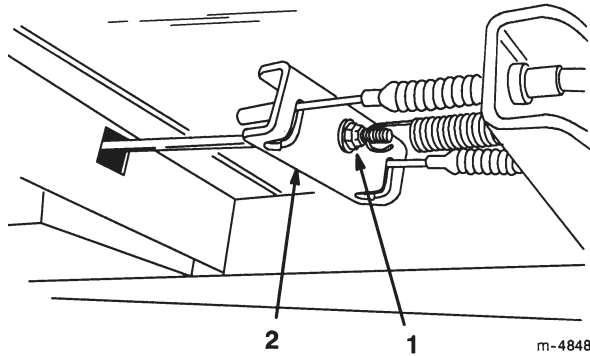

Figure 23
3. Tighten the cable adjusting screw, located beneath the floor panel, until the cables are snug in the brake equalizer (Fig. 23).